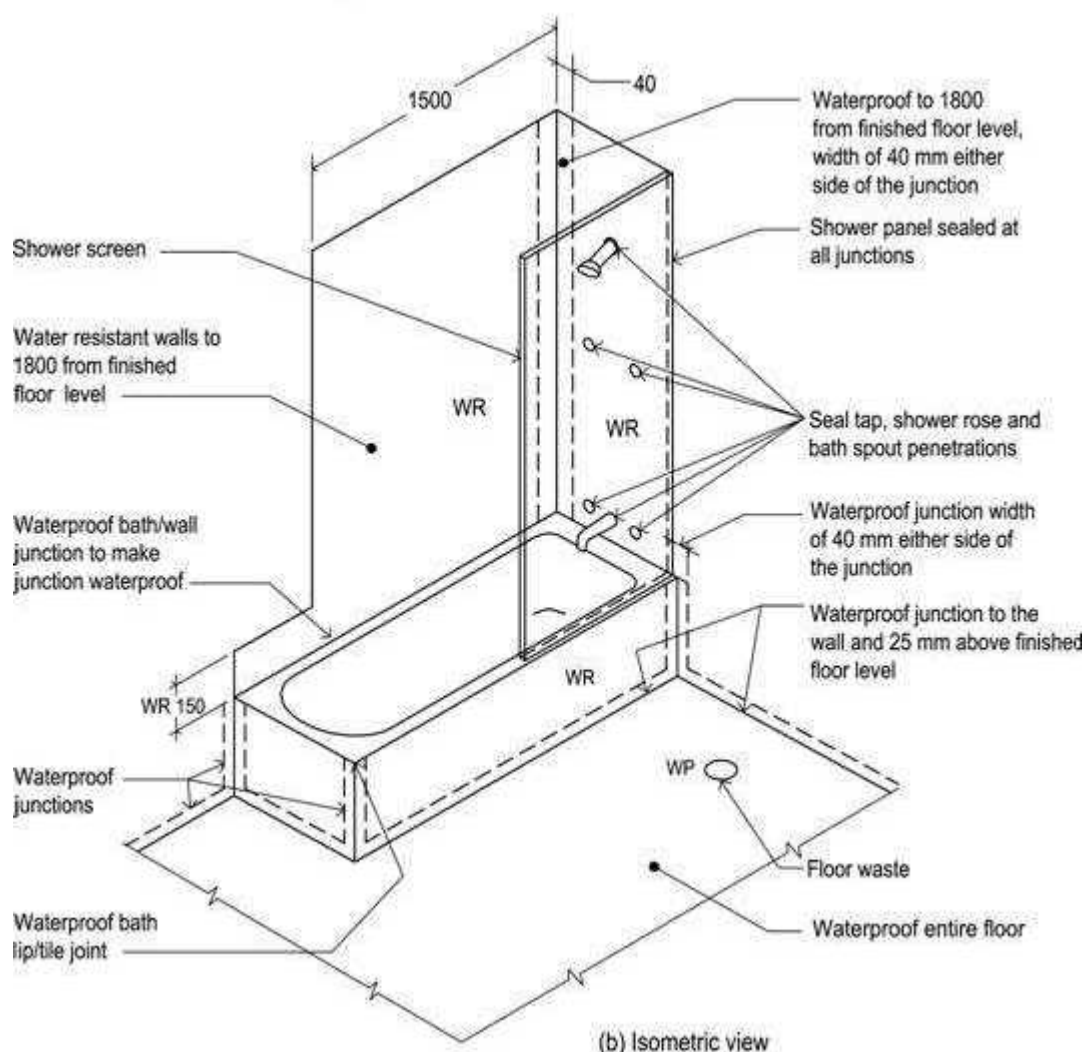

Figure 3 – Unenclosed showers above baths
Wall junctions and joints – See Figure 3
- Waterproof all tap and spout penetrations (see *Figure 3 above*).